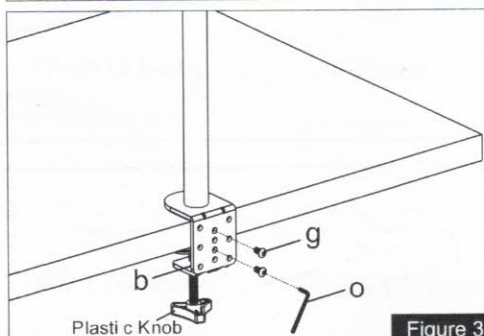

Figure 3
3. Install the $\propto$ Clamp(b) to the pole assembly according to the thickness of the desktop. The thickness can be changed to three positions. Connect it using 2pcs M8x12 Bolts(g), and tighten using the Allen Key(o). Tighten the $\propto$ Clamp to the desktop using the plastic knob, see Figure 3.